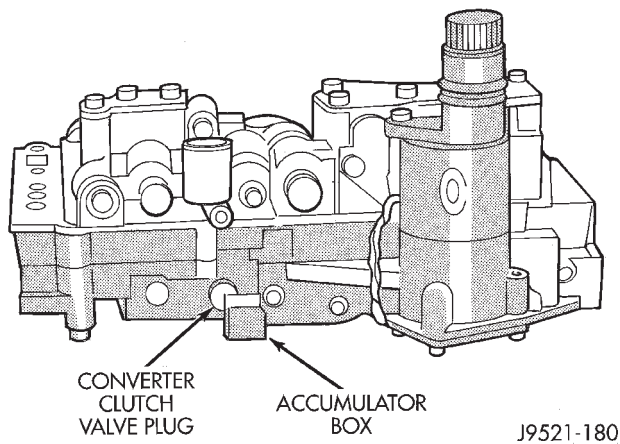

Fig. 92 Seating 3-4 Accumulator On Lower Housing
(6) Swing accumulator housing upward over valve springs and plug.
(7) Hold accumulator housing firmly in place and install remaining two attaching screws. Be sure springs and clutch valve plug are properly seated (Fig. 92). Tighten screws to 4 N-m (35 in. lbs.).